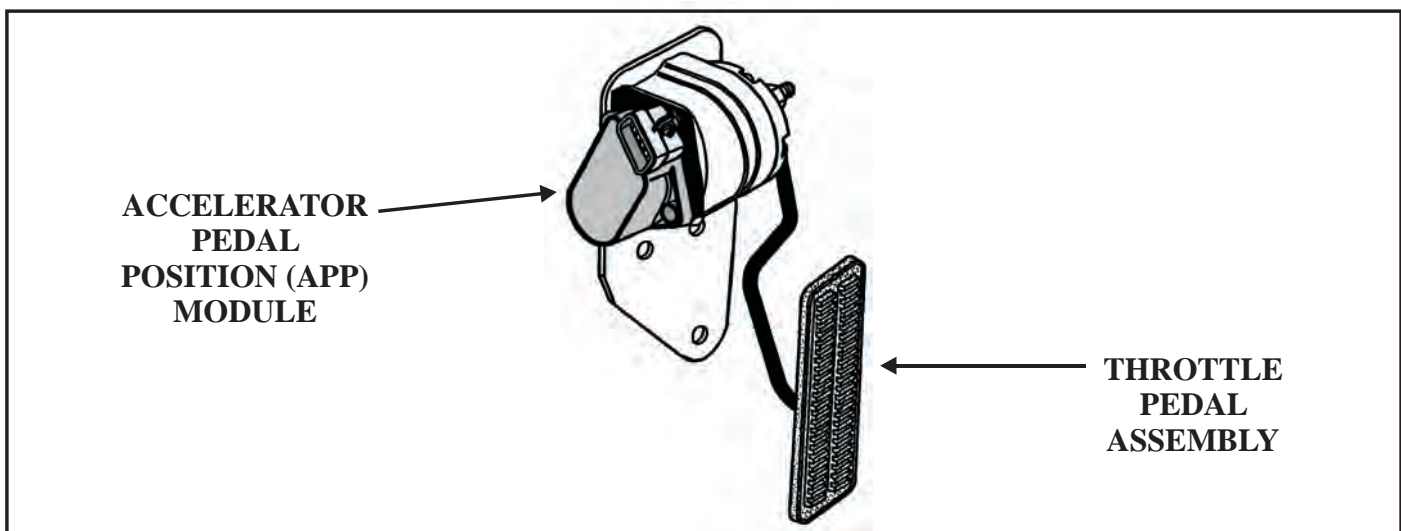

Figure 66
- The APPS is mounted on the throttle pedal, therefore, when the APPS Module is replaced from the dealer, it comes with the throttle pedal, (Refer to Figure 66).